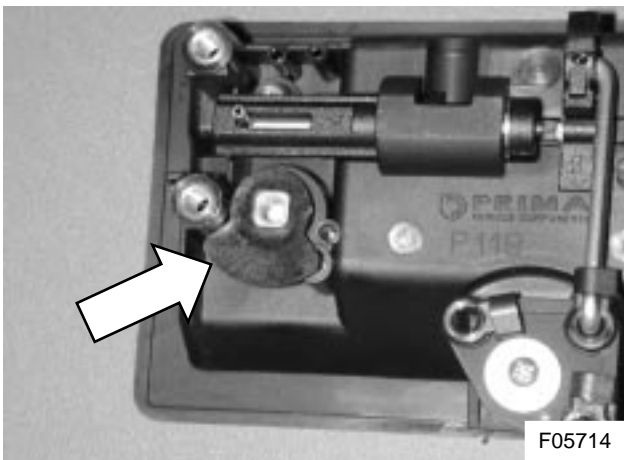

Figure 13: Lower cam installation on cam drive
6) Reinstall the lower cam (see Figure 13).